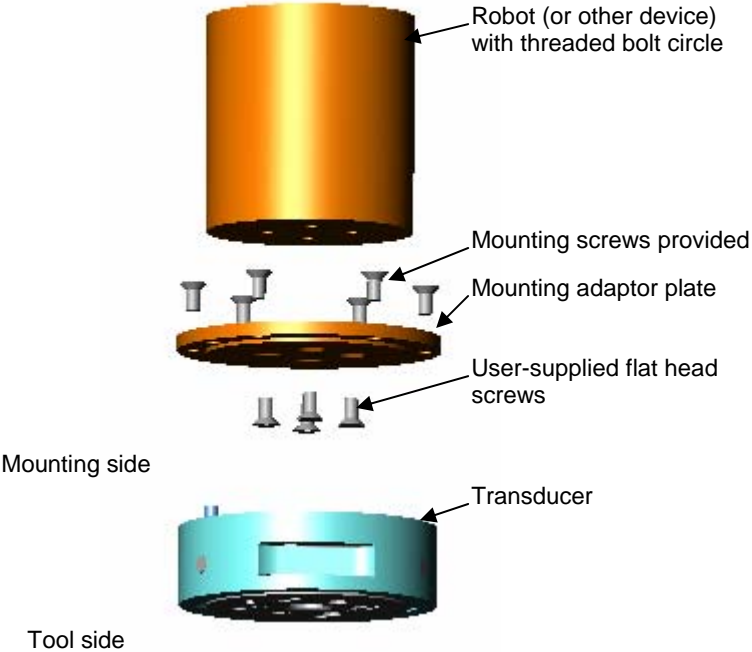

Figure 2.1—Attaching the transducer with the mounting adapter
- Machine the mounting adapter plate for attaching to your robot (or other device) (see *Figure 2.1*). Mounting adapter plate dimensions are shown with the transducer in *Section 4—Transducer Specifications*. **All user-supplied screws must be flush with the inside of the mounting adapter to ensure proper clearance for the electronics inside the transducer.**